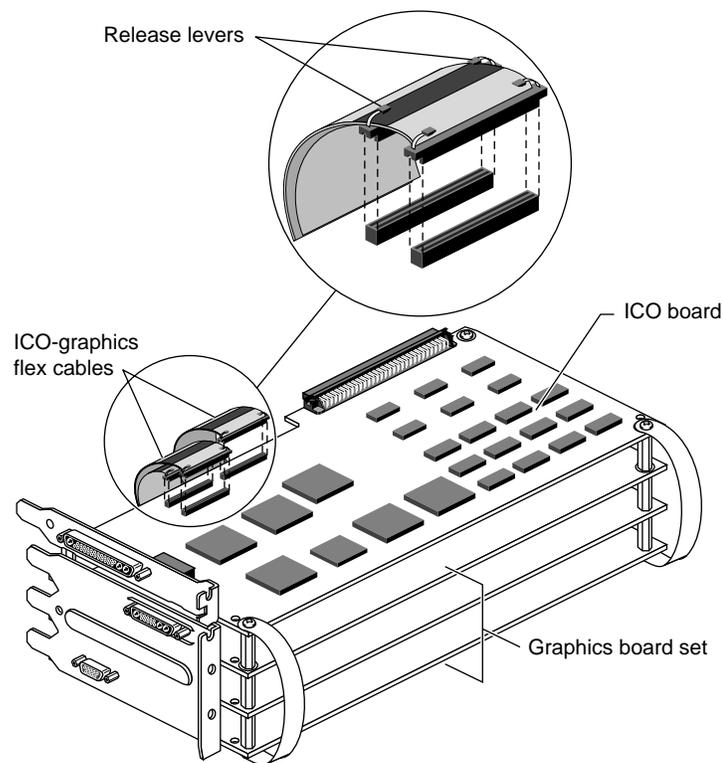

Figure 1-21 Attaching the ICO-Graphics Cables to the ICO Board
7. Attach the single ICO-graphics cable to the corresponding connector on the ICO board. See Figure 1-21.
9. In the double-cable set, slip the upper cable through the lower cable's release levers. See Figure 1-21.